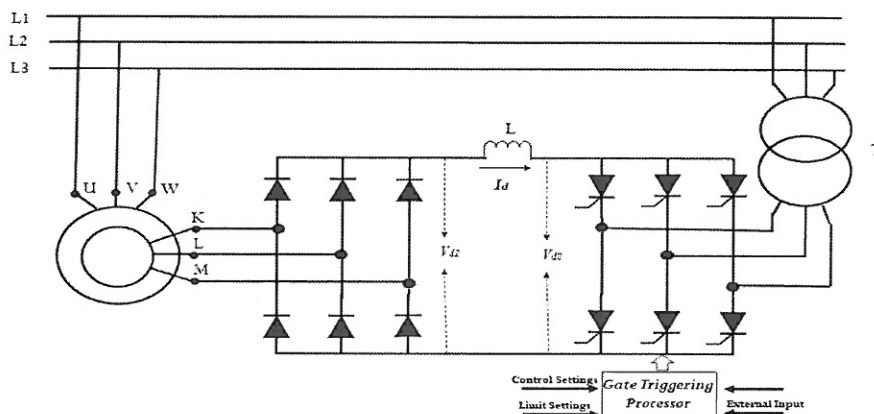

Figure.2: Speed control using a rectifier and naturally commutated inverter.
- 2.3 A three-phase, 3000 hp, 4000 V, 60 Hz, 8-pole, wound-rotor induction motor in **figure.2**. drives a variable-speed centrifugal pump. When the motor is connected to a 4160 V line, the open-circuit rotor line voltage is 1800 V. A three-phase, 4616 V/480 V transformer is connected between the inverter and the line. If the motor has to develop 800 kW at a speed of 700 RPM, calculate the following: